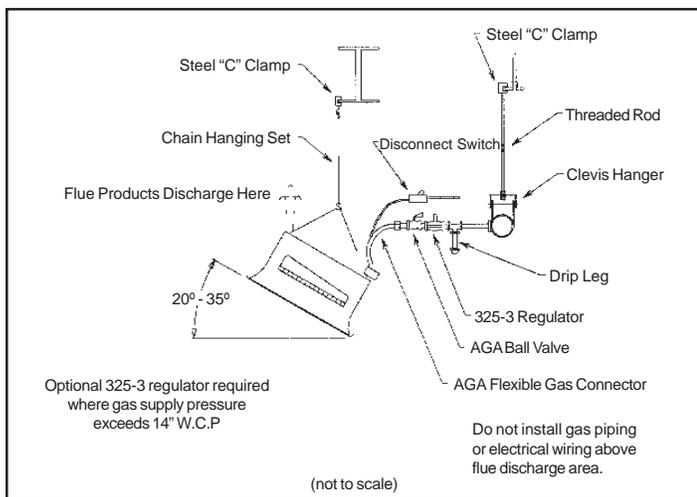
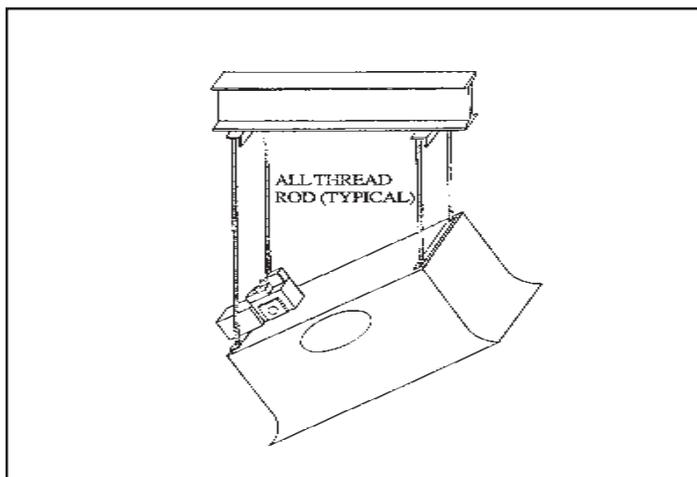

Figure 2.1 TYPICAL HEATER MOUNTING
Figure 2.2 RIGID HEATER MOUNTING
- Figure 2.1 illustrates the more common method for heater mounting. Some local codes or application conditions, such as drafts or other variables that could cause the units to move, stipulate that if flexible gas connectors are used then the heater must be rigidly mounted (see Figure 2.2). Consult local codes for further details.
- Neither the gas pipe nor flexible gas connector shall be placed in the 'flue discharge area'. See Fig. 2.1.